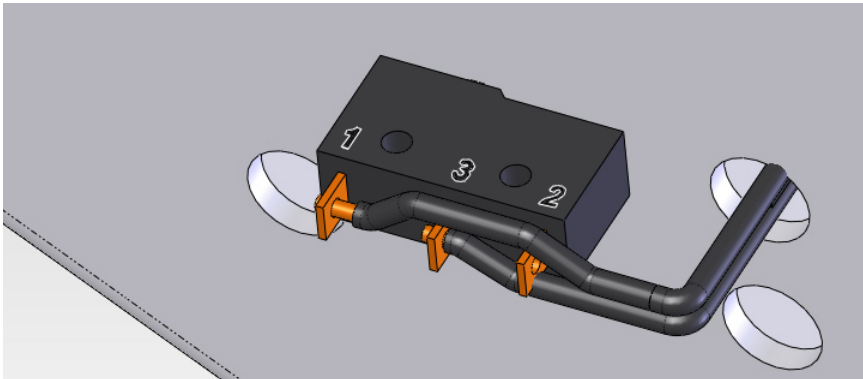

FIGURE 4. Lead Placement
7. Solder the **other lead** to **pin #3** . See Figure 4.